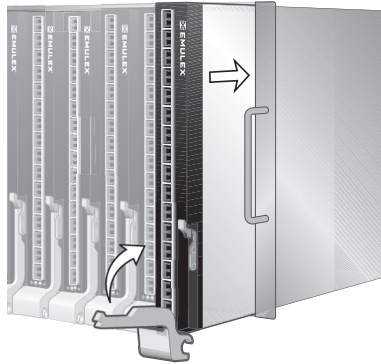

Figure 2. Installing the Pass-Through Module
5. Rotate the latching arm upward until it is flush against the front panel, and the top of the arm is seated in the latch, as shown in Figure 2, Installing the Pass-Through Module.